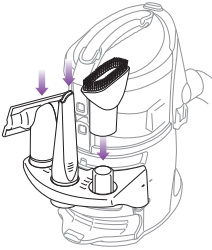

Fig. 4
- 4 Attach the shoulder strap onto the hooks on the handle of the Portable Vac. (**fig. 4**)